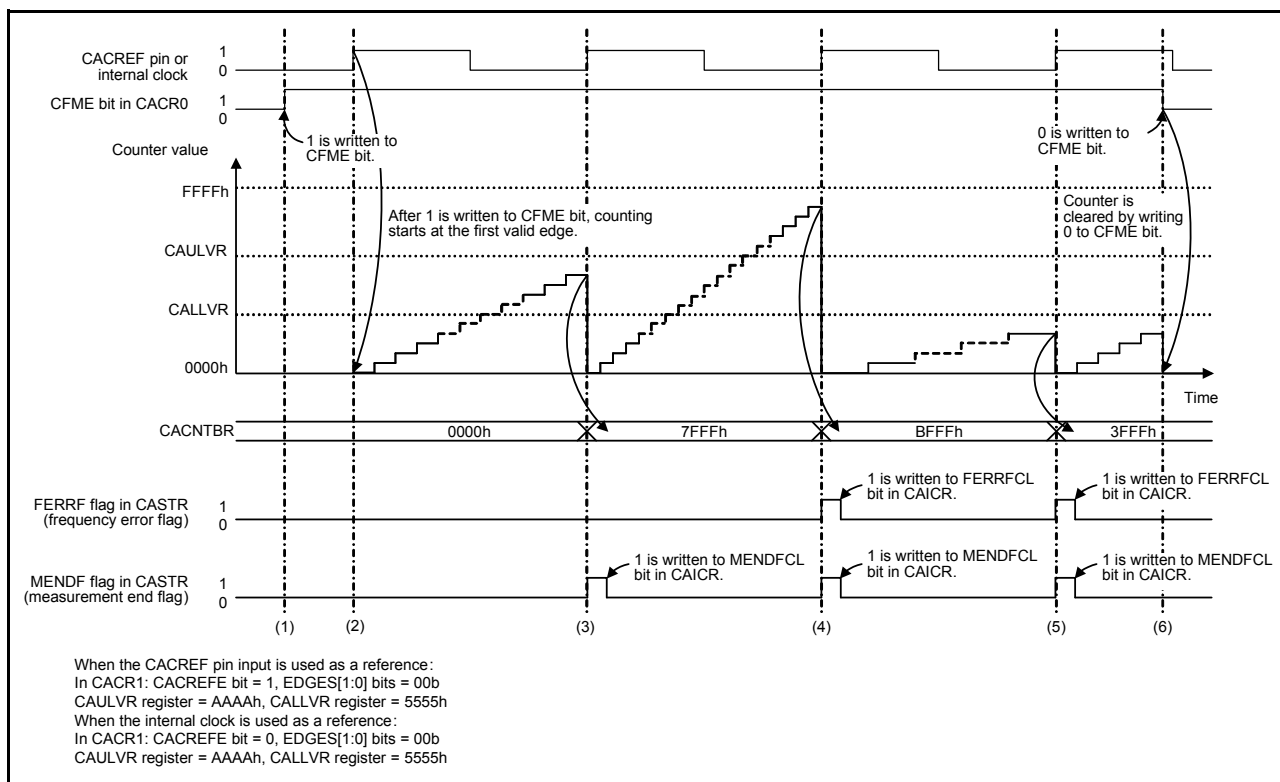

Figure 9.2 CAC operating example
The CAC measures the clock frequency using the CACREF pin input or an internal clock as a reference. Figure 9.2 shows an operating example of the CAC.
2. The timer starts counting up if the valid edge selected by the CACR1.EDGES[1:0] bits is input from the measurement reference clock. The valid edge is a rising edge (CACR1.EDGES[1:0] = 00b) as shown in Figure 9.2.